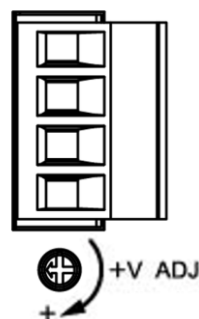

Figure 2.8: Adjustable Knob for Power Output Voltage
- Step 3 Rotate the knob to adjust power output voltage from 48-55VDC, as shown below in Figure 2.8.